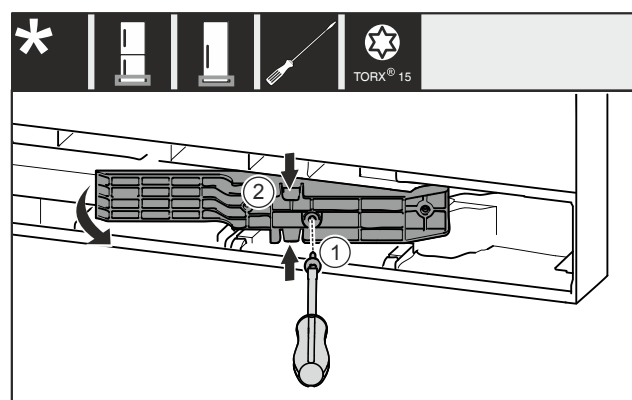

Fig. 20 *
- Remove the screw Fig. 20 (1).*
- Gently press the top and bottom of the adapter piece Fig. 20 (2) together and pull it out.*